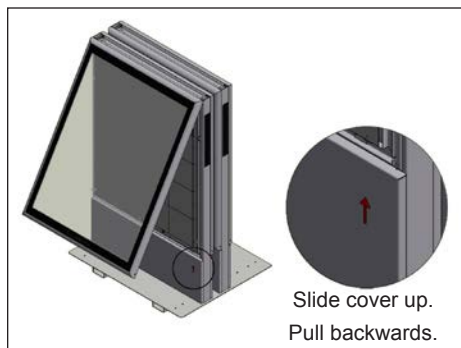

Figure 7: Remove Base Cover
2. Remove the base cover, slide the cover upwards and pull it backwards. Refer to **Figure 7**.